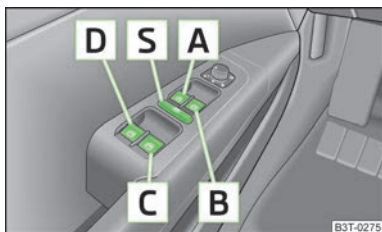

Fig. 23
- It is recommended to deactivate the electrically operated power windows in the rear doors (safety pushbutton) **[S]** » Fig. 23 on page 41 when children are being transported on the rear seats.
The buttons for the individual windows are located in the armrest of the driver's door » Fig. 23, front passenger seat and in the rear doors » Fig. 24 on page 42.
The buttons for power windows in the rear doors can be deactivated by pressing the safety pushbutton **S** » Fig. 23. The buttons for the power windows in rear doors are activated again by pressing the safety pushbutton **S** again.